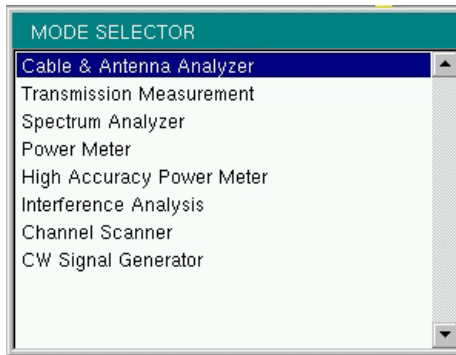

Figure 2-14. Mode Selector Menu
To access the functions under the Mode menu, select the **Shift** key, then the **Mode** (9) key. Use the directional arrow keys, the rotary knob, or the touch screen to highlight the selection, and press the **Enter** key to select. The list of modes that appear in this menu will vary depending upon the options that are installed and activated in the instrument. Figure 2-14 is an example of the Mode menu. Your instrument may not show the same list. The current mode is displayed below the battery symbol.